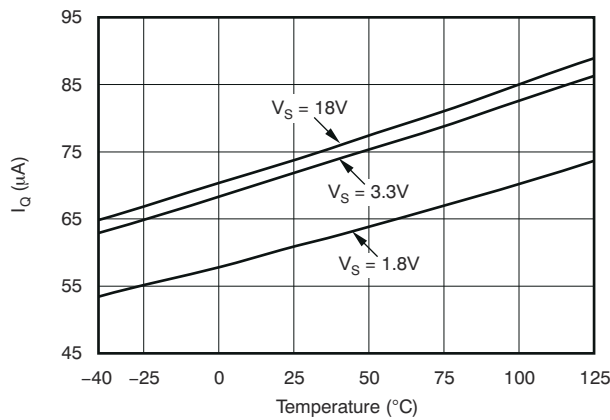

Figure 6-1. Quiescent Current Over Temperature and Supply
- (1) 100% of production is tested at $T_A = +85^\circ\text{C}$. Specifications over temperature range are ensured by design.
- (2) See Figure 6-1 for typical quiescent current.
- (3) Shaded cells indicate characteristic performance difference.
- (4) The TMP300 is functional over this range and no indication of performance is implied.